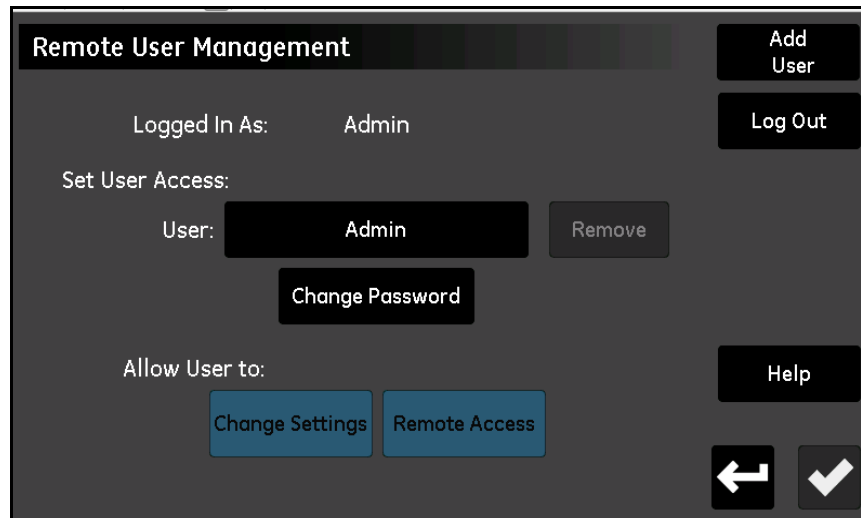

Figure 71: Web User Management Screen
Enter your password and tap the **Log In** button. On a successful login, the *Web User Management* screen shown in *Figure 71* below is opened.
The **Operator** password should be changed at the earliest opportunity. The steps for changing the **Operator** password are the same as for changing the **Admin** password (see previous section). Select the **Operator** account from the *Web User Management* screen (see *Figure 71* on page 75), then enter and confirm the new password.
4. Tap the **Log In** button to open the *Remote User Management* screen (see *Figure 71 on page 75*).